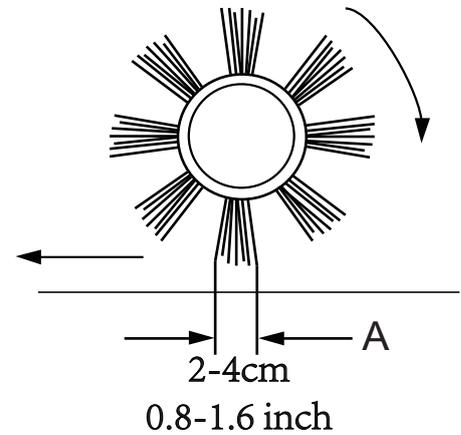

Figure1
-Check that the main brush print (A, Fig. 1), along its length is 0.8 to 1.6 in (2 to 4 cm) wide.